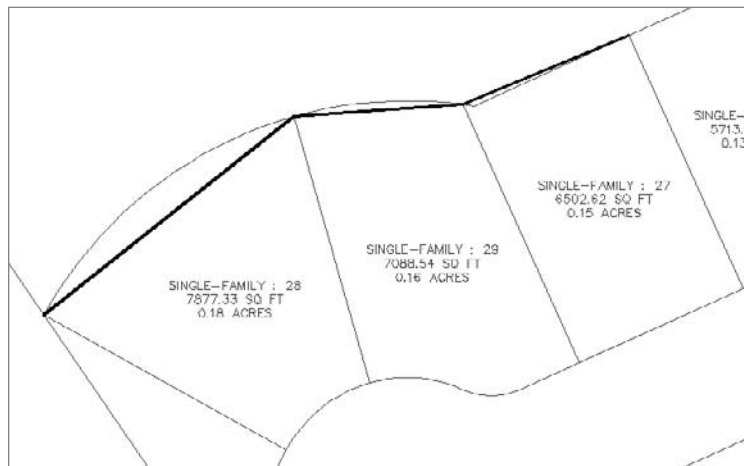

Figure A.27
10. Click the Delete Sub-entity button from the Parcel Layout Tools as shown in Figure A.27.